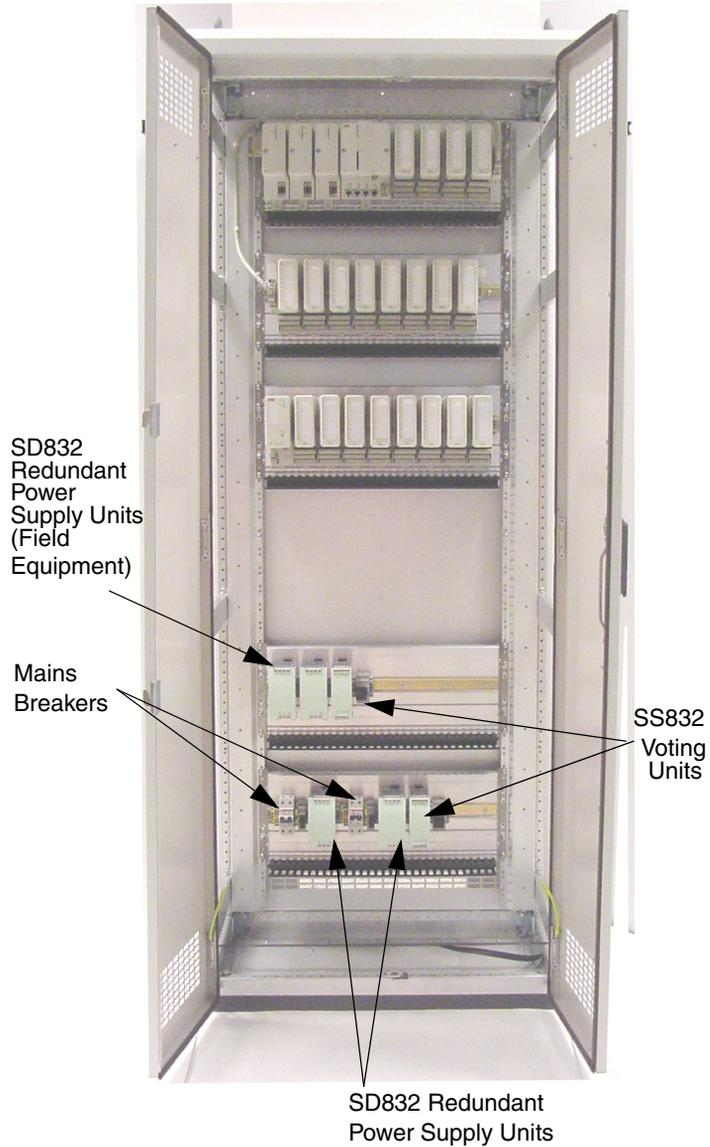

Figure 51. Floor Mounted Cabinet (Horizontal Unit Arrangement)
- Figure 51 on page 148: Floor Mounted Cabinet – Unit Arrangement (Redundant PSU)